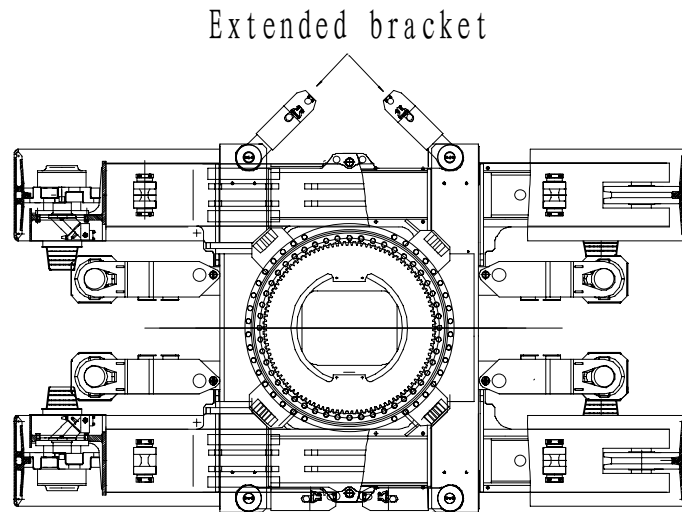

Fig. 5-21
2. Rotate extended bracket on left side as shown in Fig. 5-21.